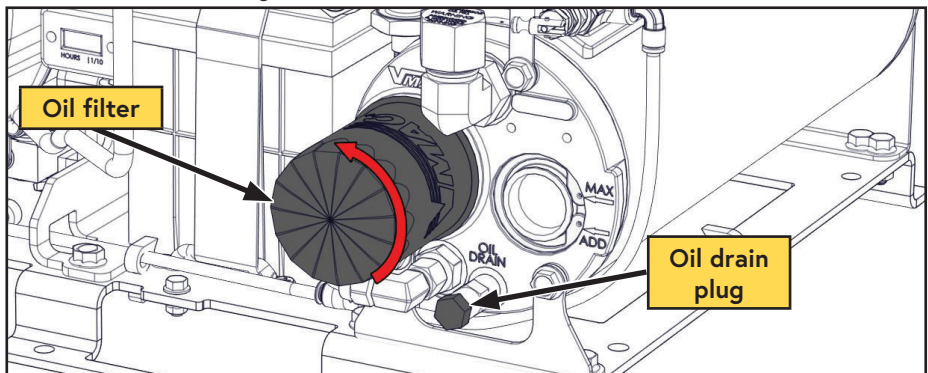

Figure 40 — Compressor oil filter
- ☐ Remove the oil drain plug and drain the oil into a container with a capacity of at least 4 L (1 USG) (Figure 40).
- ☐ Remove the oil filter (Figure 40 on page 61).